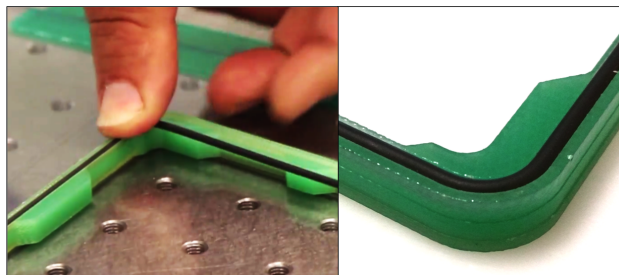

Figure 37: Placing the VITON O-ring (2).
Step 2: Then gently press the O-ring with your finger to insert it in the trench. Check by eye and with your finger that the O-ring is placed properly and slightly exceeding the frame's housing (Fig. 37).